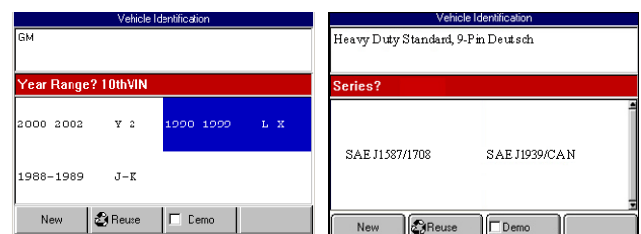

Figure 3.6: Vehicle Identification Screen Examples
- 5 With the Vehicle Identification screen displayed (Figure 3.6 on page 15), do one of the following: